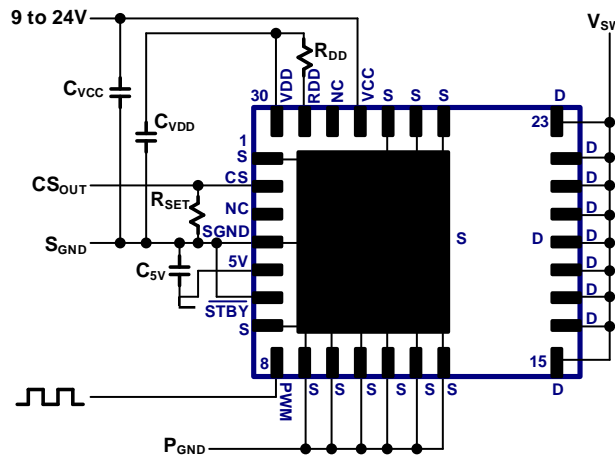

Fig. 20. IC connection diagram
The typical connection diagram for this GaN Power IC is shown in Fig. 20. The IC pins include drain of the GaN power FET (D), source of the GaN power FET (S), IC supply (V_{CC}), gate drive supply (V_{DD}), gate drive turn-on control SET input (R_{DD}), PWM input (PWM), separate signal GND (S_{GND}), current sensing output (CS), auto-standby mode input (\overline{STBY}), and 5V supply (5V). The Source pad and Source pins (S) should all be connected to the system P_{GND} . S_{GND} pin 4 must be connected directly to Source PAD underneath IC. The Source pins (S) should each be connected externally to the Source pad directly underneath the IC. The Drain Pins (D) should all be shorted together by copper in the layout (see Section 9). The external components around the IC include V_{CC} filter capacitor (C_{VCC}) connected between V_{CC} pin and S_{GND} pin, V_{DD} filter capacitor (C_{VDD}) connected between V_{DD} pin and S_{GND} pin, turn-on dV/dt set resistor (R_{DD}) connected in between V_{DD} pin and R_{DD} pin, a current sense amplitude set resistor (R_{SET}) connected between CS pin and S_{GND} , and auto-standby mode pin (\overline{STBY}) connected to S_{GND} . An external capacitor (C_{5V} , 0.01uF max) is required between pin 5V and S_{GND} . This 5V pin is for internal purposes only and must not be used for biasing external circuitry.